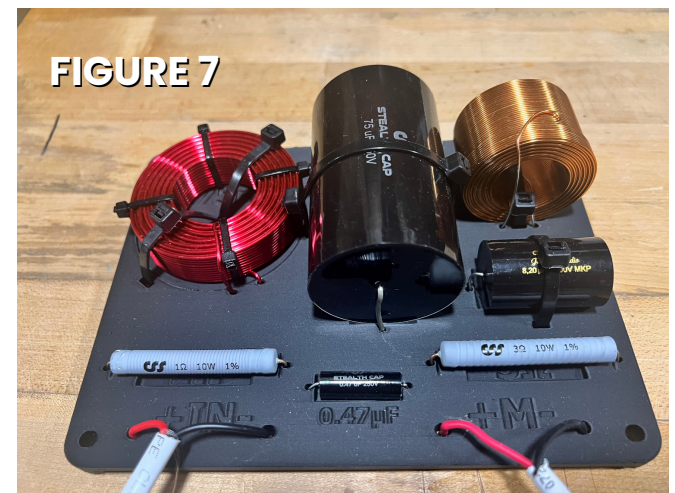

FIGURE 7
2. Place each component in its labeled location on the SmartNode board by putting the lead wires through the holes for the associated board location (*figure 6 - tweeter & figure 7 - mid*).